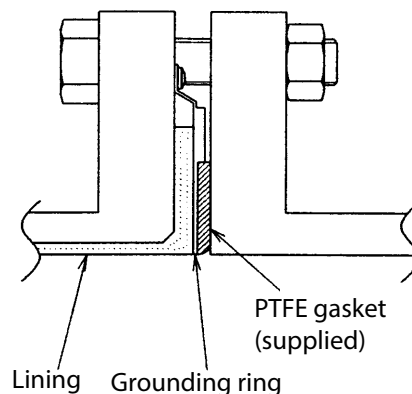

Figure 2-28 Installation using Non-SUS material grounding ring
- Install the detector as shown in Figure 2-28. See Table 2-5 on page 2-27 for the appropriate fastening torque.